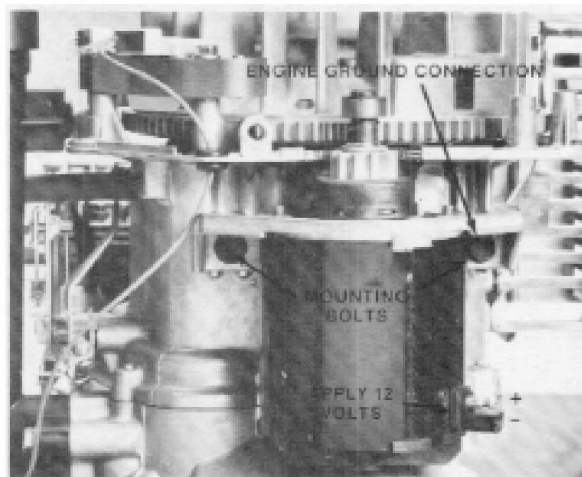

Figure 3-23
3. Apply 12 volts direct to the starter motor terminals. See Fig. 3-23.